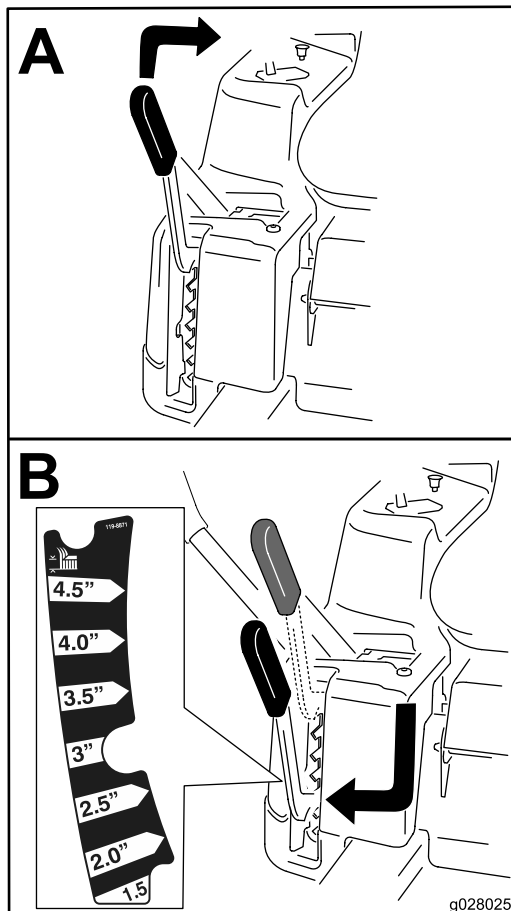

Figure 18
**Note:** The transport position is the highest height-of-cut position or cutting height 115 mm (4.5 inches) as shown in Figure 18.
Height of cut is controlled by the lever located to the right of the operating position (Figure 18).